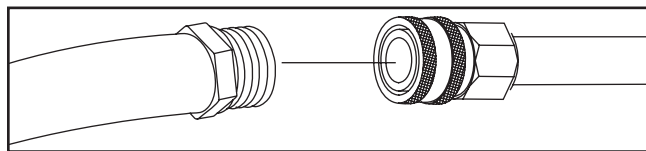

Figure 35— Backflushing the Nozzle Extension
5. Using a garden hose, remove additional debris by back flushing water through nozzle extension (see Figure 35). Back flush between 30 to 60 seconds.